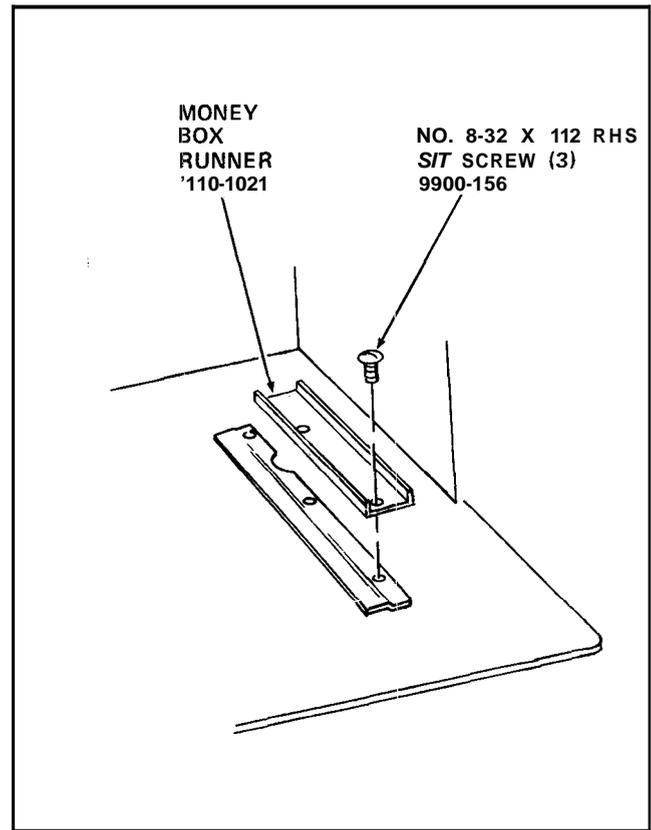

FIGURE 7-7
47. Remove two Screws from the Mechanism Sidewall "Z" Section in the lower right corner of the Merchandiser and install the Money Box Runner, Part Number 110-1021 included in the Kit, on top of the Mechanism Sidewall "Z" Section already in the Merchandiser. Attach using two No.8-32 x 1/2 RHS Self Tapping Screws, Part Number 9900-156, included in the Kit. See Figure 7-7.